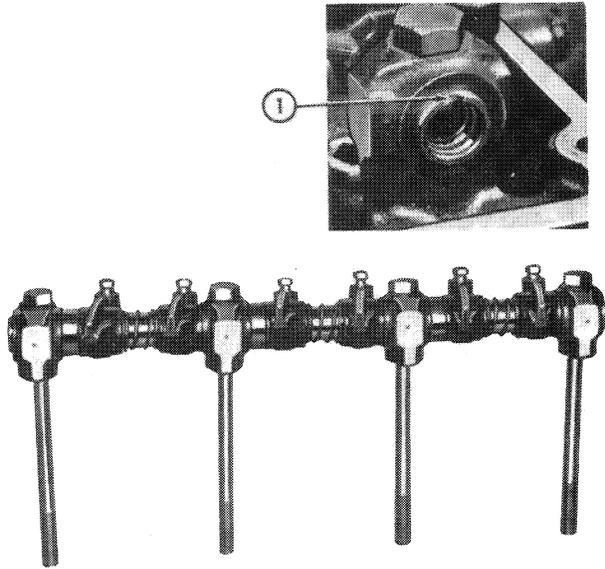

Figure 18
1. Coat all components with engine oil and position the notch on the front of the rocker shaft upwards to correctly locate the oil holes, Figure 18.